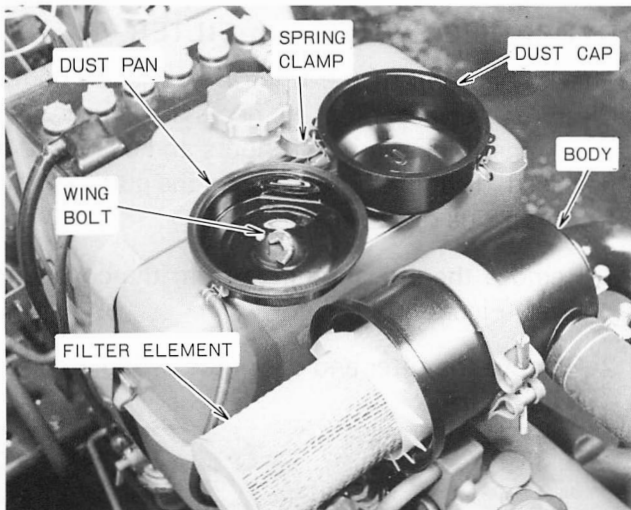

Figure 37 — Air Cleaner — Disassembled
Checking Dirt Level: Check the dirt level in the dust pan daily or every 10 hours (Figure 37).
1. Loosen spring clamps and remove dust cap, Figure 37.
2. Remove seal and dust pan from dust cap and clean dust cap, seal and dust pan using a damp lint free cloth, Figure 37.